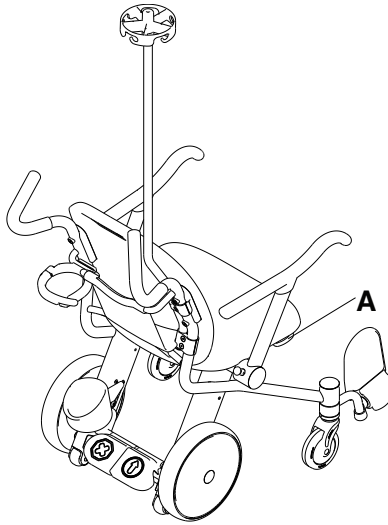

Figure 12 – Foley bag hook location
To secure a foley bag to the optional foley bag hook, place the hook of the foley bag on the optional foley bag hook (A) (Figure 12). Make sure that you have securely attached the foley bag.